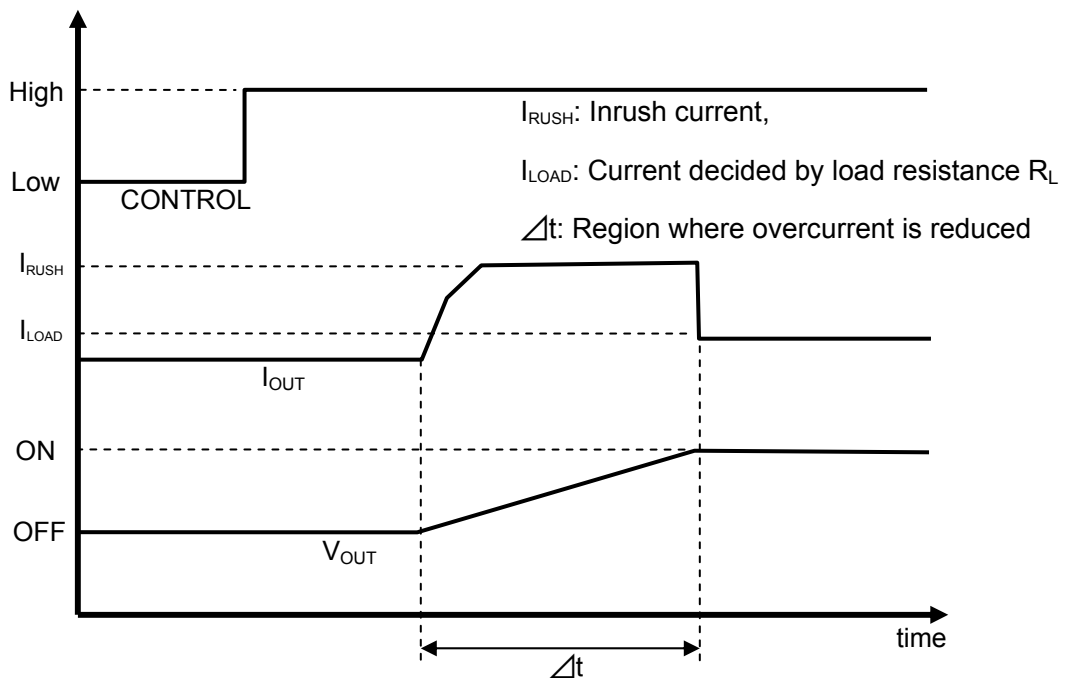

Fig.3 TCK104G,TCK105G inrush current reduction image
The inrush current is controlled by the slow-start circuit in the driver circuit, equivalent load capacitance C_L and equivalent load resistance R_L , which alters the rise time of the output voltage V_{OUT} and thus the transient inrush current. Also, other than the methods mentioned above, using the overcurrent protection circuit ③, the rising output current can be controlled, and the inrush current is reduced. The block diagram shown in Fig.2 is that of TCK104G, TCK105G which have overcurrent protection circuits and uses this method. Fig.3 shows how this inrush reduction circuit works.